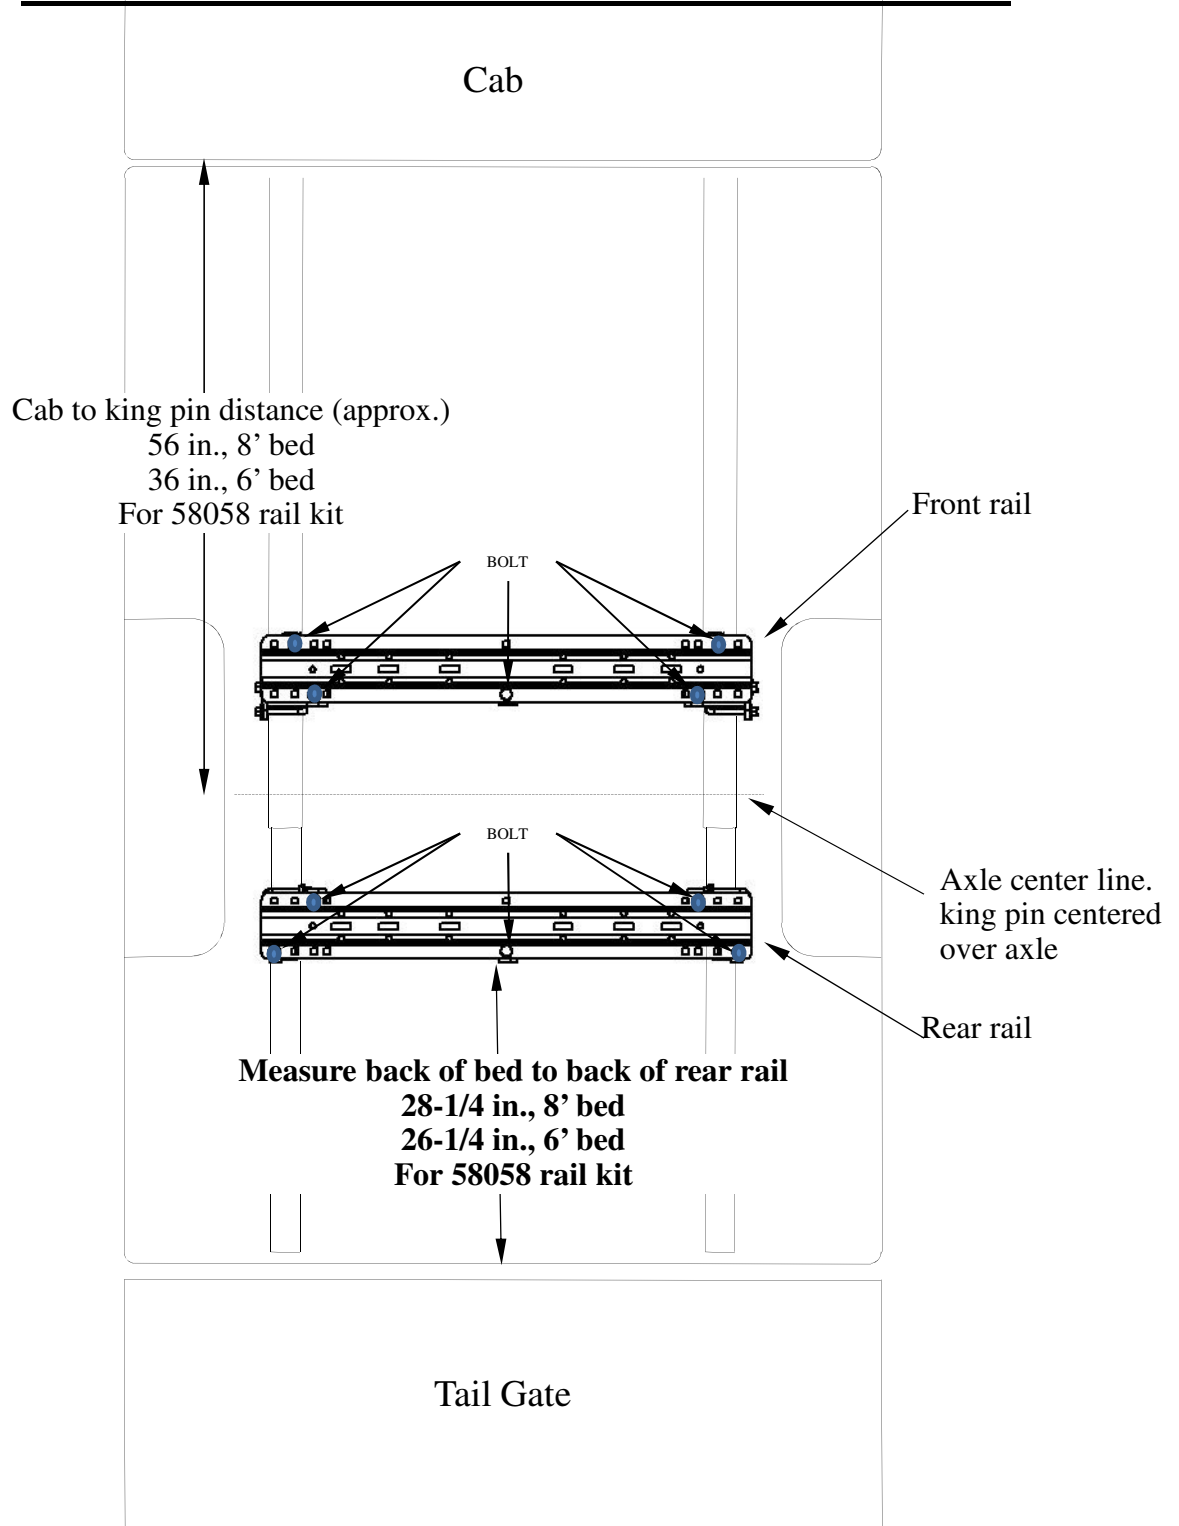

Figure 3
3. Place the rear mounting rail in the bed of the truck. Using your tape measure, center the rail on the truck bed floor and the proper distance from the rear edge of the truck box as illustrated in Figure 3 on page 4.
4. Mark and center punch the 5 holes at bolt placement as per the illustration in Figure 3 (diesel) or 3A (gas). Move the rail out of the way and drill each position with a 1/8 in. drill bit. The front row of holes on the rear rail need to go through the bed support. **WARNING: When drilling holes be aware of potential risks to vehicle components and make appropriate safe guards to protect them from damage.**